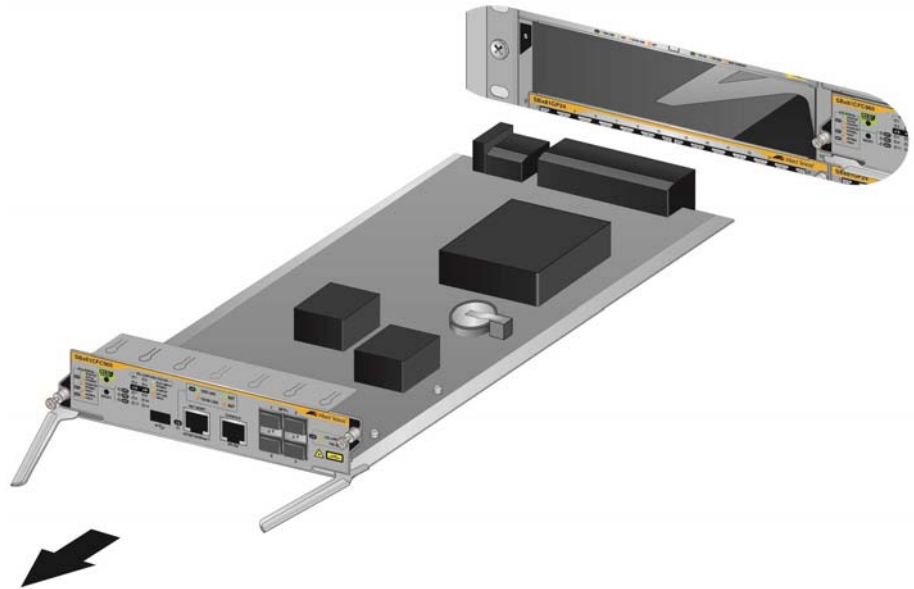

Figure 188. Removing the AT-SBx81CFC960 Controller Card
5. Carefully remove the card from the chassis. Refer to Figure 188 on page 299.